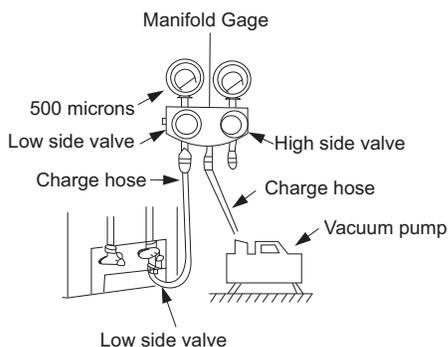

Fig. 22 – Manifold
3. Fully open the low side of manifold gage. (See Fig. 22)